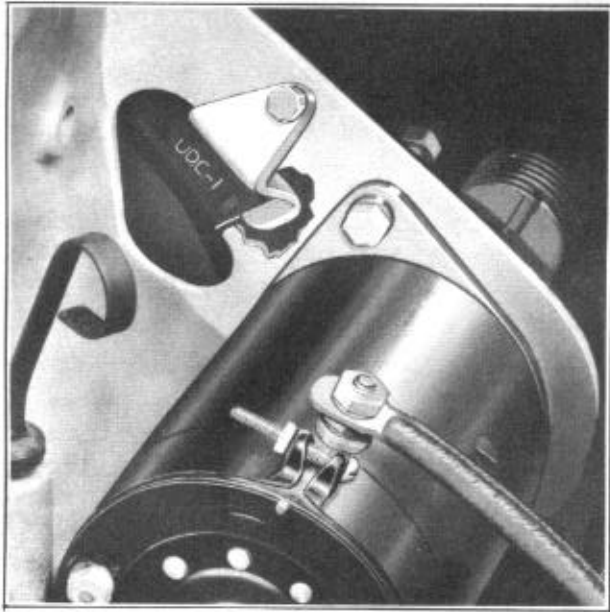

FIGURE 20
2. Set distributor rotor to point to No. 1 contact in the distributor cap, Figure 20.
5. Replace distributor cap, secondary wire and spark plug wires, Figure 20.